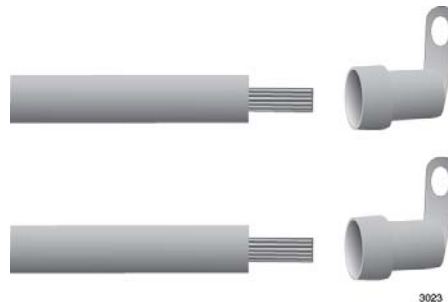

Figure 115. Attaching the Power Wires to the Right Angle Terminals
3. Insert the power wires into the right angle terminals included with the power supply and use a crimping tool to secure the wires to the terminals. See Figure 115,